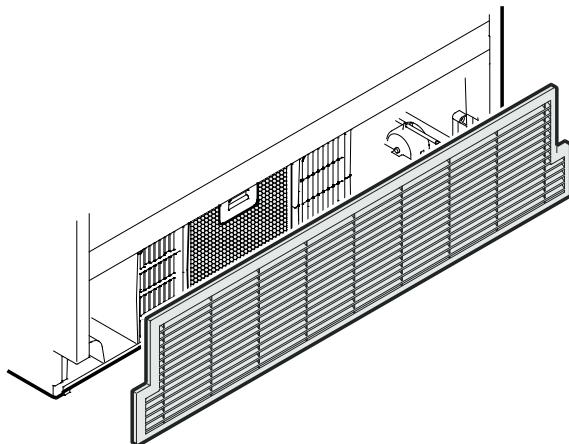

Figure 21
3. Mount the ventilation grille as shown in **Figure 21**.